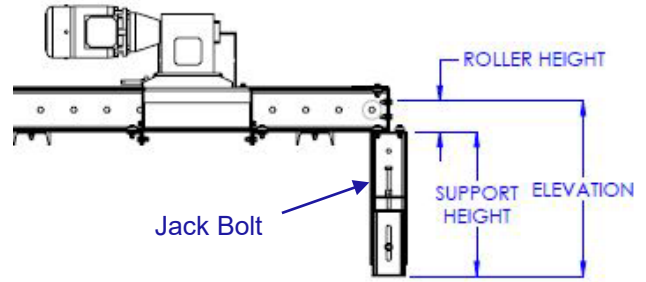

Figure 1 – Support Height Adjustment
- See *Figure 1*. Determine your desired conveying height (ELEVATION). Then measure from the bottom of the conveyor frame side rail to the top of roller (ROLLER HEIGHT). Subtract this measurement from the height you set the support to. Desired ELEVATION minus roller height equals support height.